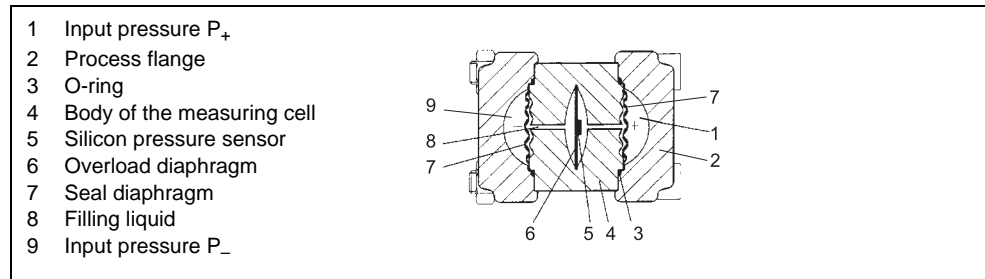

Figure 7 Measuring cell for differential pressure and flow, functional diagram
The differential pressure is transmitted via the seal diaphragms (see (7) Figure 7, page 19) and the filling liquid to the silicon pressure sensor (5). On exceeding the measuring limits, the overload diaphragm (6) flexes until one of the seal diaphragms (7) comes into contact with the body of the measuring cell (4) and protects the silicon pressure sensor (5) against overloading. The seal diaphragm is deflected by the resulting differential pressure. Four piezo-resistors in bridge circuit doped in the measuring diaphragm change their resistance as a result. The change in resistance causes a bridge output voltage proportional to the differential pressure.